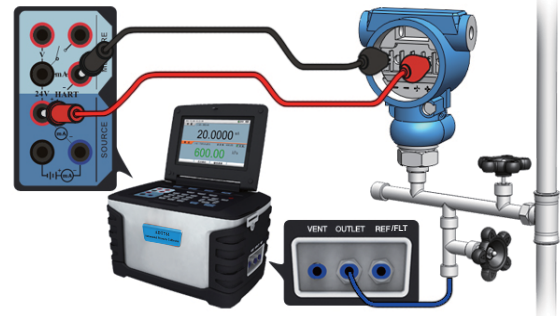

Figure 3-22 Calibrating a two-wire pressure transmitter
- ◆ Connect the calibrator to the pressure transmitter as shown in Figure 3-22.
- ◆ Connect the calibrator to the HART transmitter as shown in Figure 3-13 and Figure 3-22 in the internal series resistor and internal 24V loop power mode.